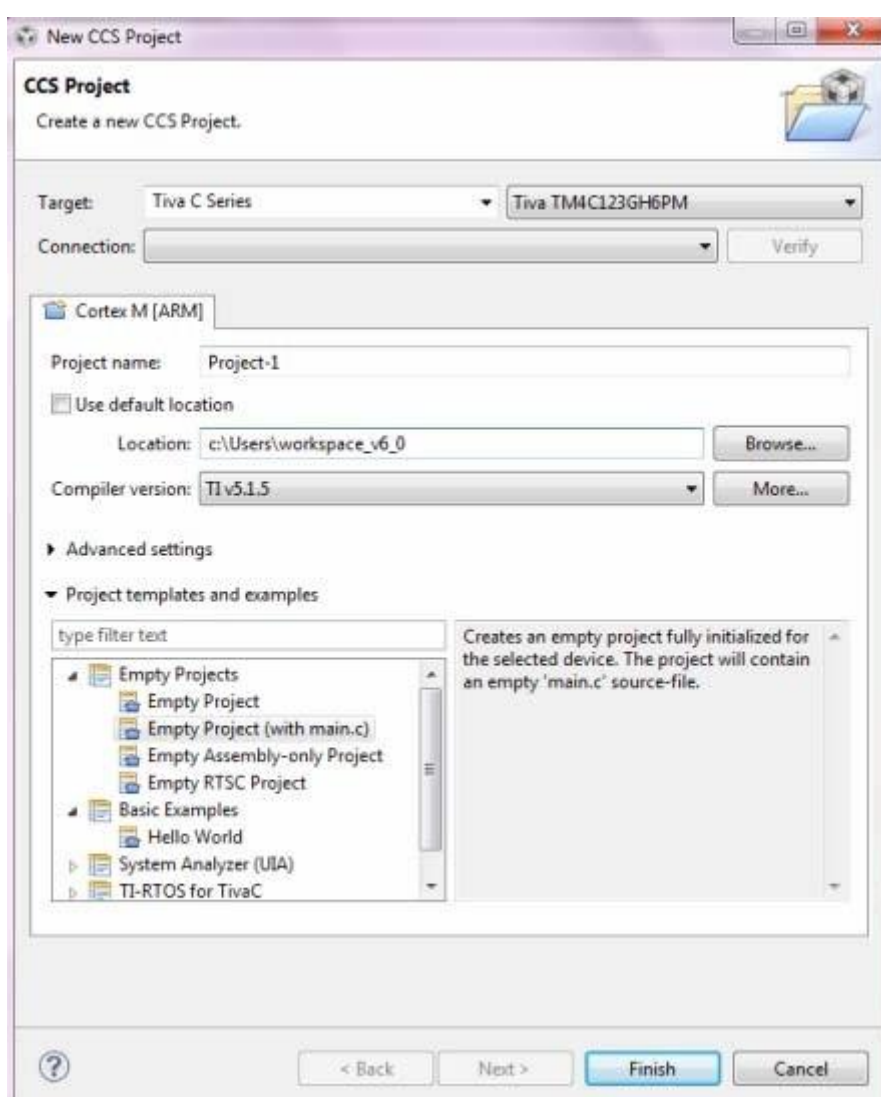

Figure 11 New CCS Project Creation
1. Create a New Project from **Project** ➔ **New Project**. Refer Figure 11.